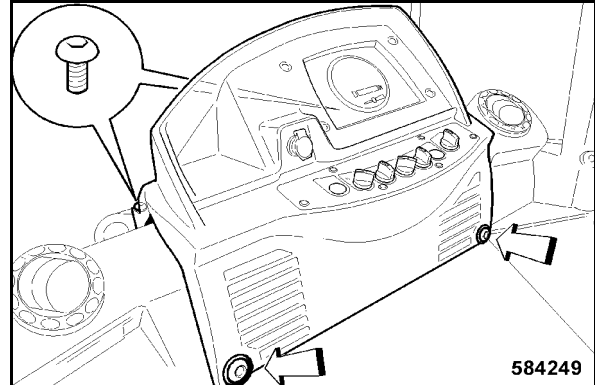

Fig. 224
- Insert the dashboard and fasten it with four fastening screws (Fig. 224).